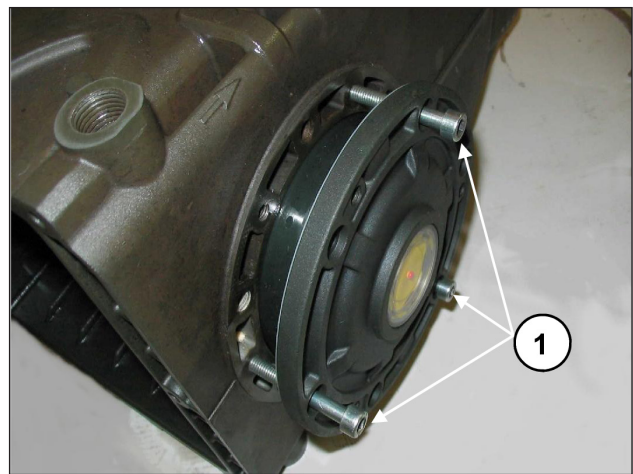

Fig. 8
To facilitate filling of the first section and relative press fitting of the covers on the casing, we recommend using 3 partially-threaded M6 x 40 screws (Fig. 8, pos. ①), then completing the operation with the screws supplied (M6x18).